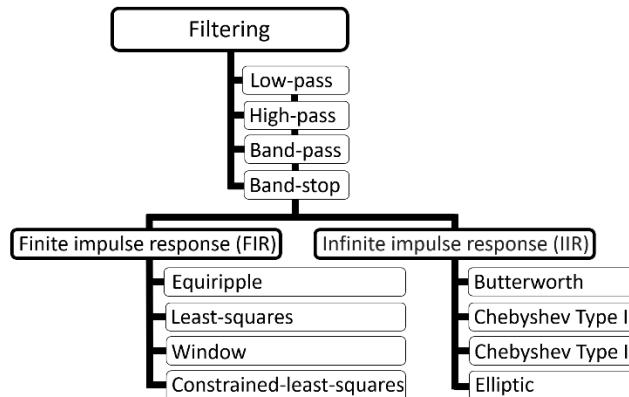

Figure 3-10: Filter options available to PATLab users.
2. Select **Filter type**. Different types of filters are available such as low-pass, high-pass, band-pass, and band-stop (Figure 3-10).